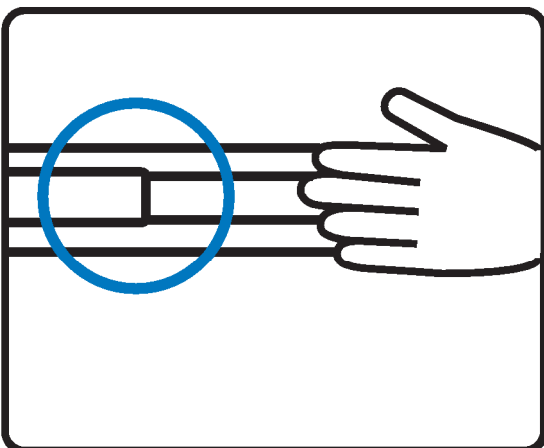

Figure 16.
- Push the LCD drawer into the rack. (shown in Figure 16).